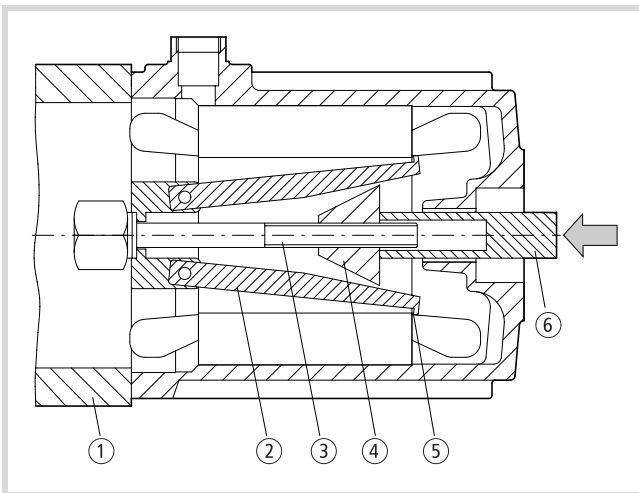

Figure 17: Removal device for stator cores
- ▶ Rotate the spindle ③. This will cause the arms ② (→ Fig. 17) to spread.